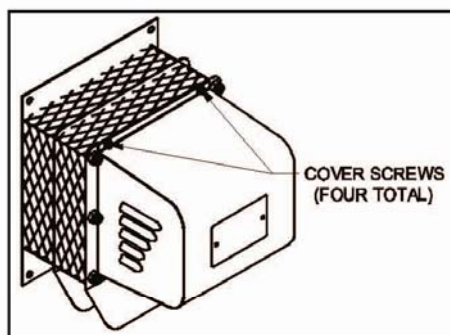

Figure 1
1. Remove motor cover. (See Figure 1)
4. Seal around the edge of the motor mount bracket with the provided high temperature silicone sealant. Install the motor cover with the side louvers pointing downward. (See Figure 1)